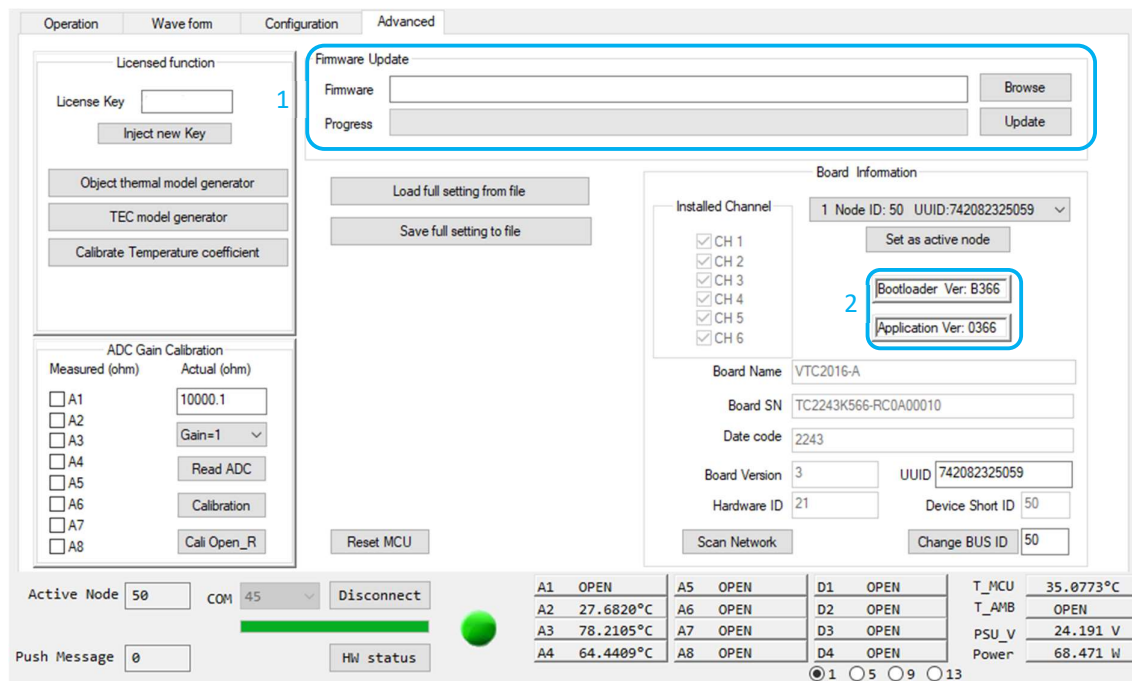

Figure 4.1: Firmware Update
As shown in *Figure 4.1*, users can update their bootloader and application firmware version in (1).